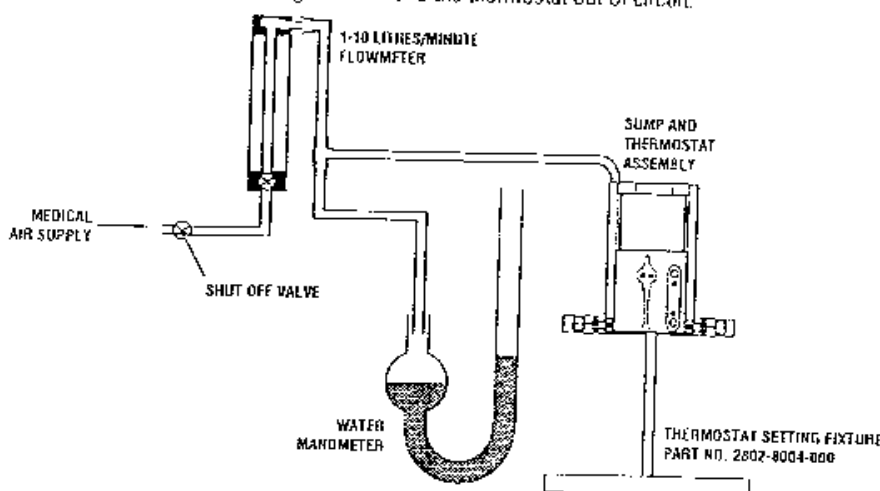

Fig. 3.13 Thermostat Pressure Test
3.7.1 Thermostat Test (Fig. 3.13)
4. Maintain a flow of 5 litres/minute and connect the thermostat assembly to the thermostat setting fixture Part No. 2802-8004-000, as illustrated on Fig. 3.13.